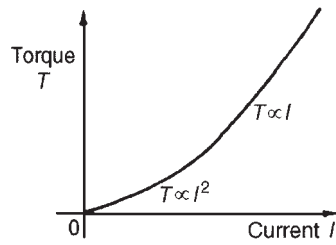
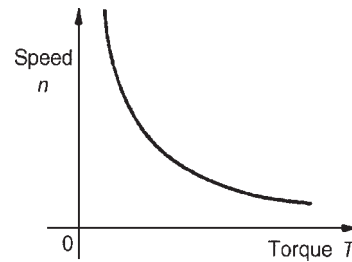

Figure 22.21
Figure 22.23
It is shown in Section 22.11 that torque $T \propto \Phi I_a$. Since the armature and field currents are the same current, I , in a series machine, then $T \propto \Phi I$ over a limited range, before magnetic saturation of the magnetic circuit of the motor is reached, (i.e. the linear portion of the B–H curve for the yoke, poles, air gap, brushes and armature in series). Thus $\Phi \propto I$ and $T \propto I^2$. After magnetic saturation, Φ almost becomes a constant and $T \propto I$. Thus the theoretical torque/current characteristic is as shown in Fig. 22.21.
- (iii) The theoretical **speed/torque characteristic** may be derived from (i) and (ii) above by obtaining the torque and speed for various values of current and plotting the co-ordinates on the speed/torque characteristics. A typical speed/torque characteristic is shown in Fig. 22.23. A d.c. series motor takes a large current on starting and the characteristic shown in Fig. 22.21 shows that the series-wound motor has a large torque when the current is large. Hence these motors are used for traction (such as trains, milk delivery vehicles, etc.), driving fans and for cranes and hoists, where a large initial torque is required.
A compound-wound motor has both a series and a shunt field winding, (i.e. one winding in series and one in parallel with the armature), and is usually wound to have a characteristic similar in shape to a series-wound motor (see Figs 22.21–22.23). A limited amount of shunt winding is present to restrict the no-load speed to a safe value. However, by varying the number of turns on the series and shunt windings and the directions of the magnetic fields produced by these windings (assisting or opposing), families of characteristics may be obtained to suit almost all applications. Generally, compound-wound motors are used for heavy duties, particularly in applications where sudden heavy load may occur such as for driving plunger pumps, presses, geared lifts, conveyors, hoists and so on.